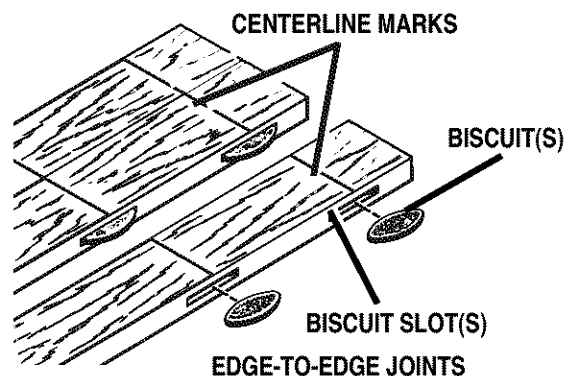

Fig. 8
- Finally, disassemble the workpieces and place a bead of glue in each slot. Also, spread a bead of glue over the entire surface of the joint. Reinsert the biscuits and assemble the workpieces. *See Figure 8.*